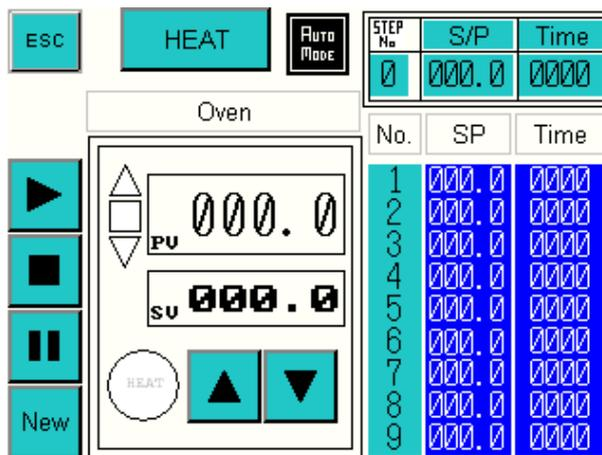

Figure 30A Oven temperature control
The screen shown in Figure 30A displays the control for the oven temperature. The current temperature of the oven is displayed in the upper window (PV) in centigrade and the lower window displays the set value (SV) also in centigrade.